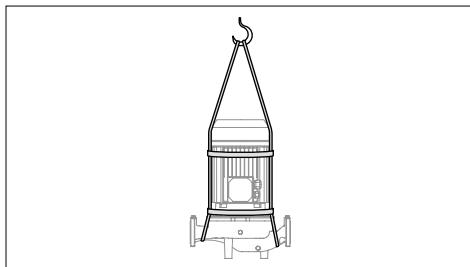

FIG.1: Lifting of 3E pumps with the help of rope
WARNING! TO LIFT OR MOVE THE MOTOR-DRIVEN PUMP, USE A ROPE STRONG ENOUGH TO TAKE ITS WEIGHT, TAKING CARE NOT TO TILT THE PUMP TOO MUCH (FIG 1);
- Remove the bolt between the pump casing and motor bracket and simply remove the motor axially. Use any suited hoist when lifting/ moving the pump. (FIG 1)